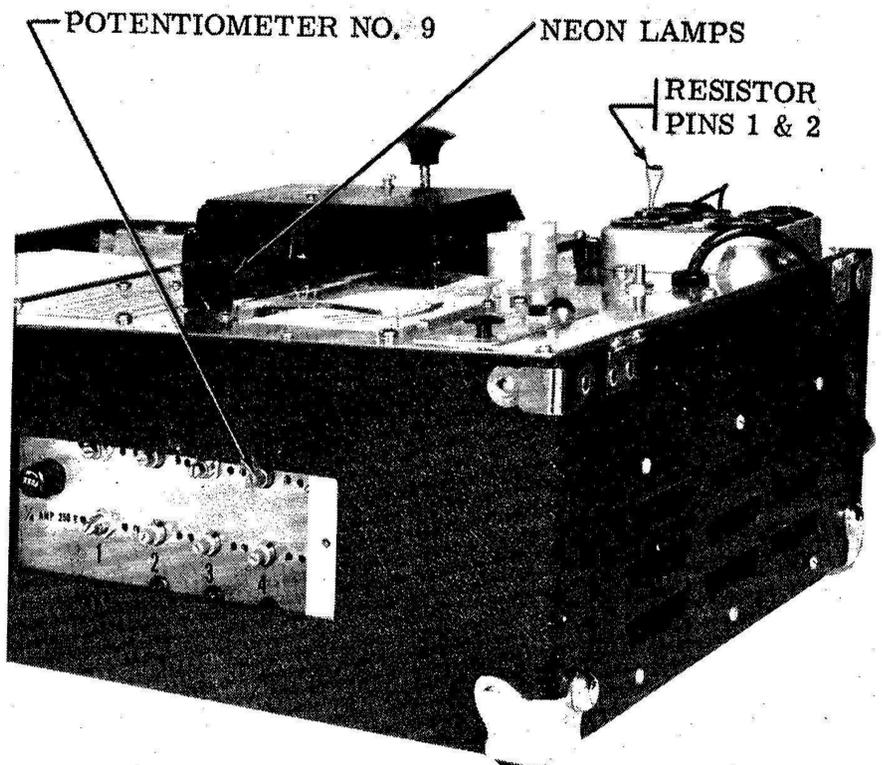

Figure 5. Test Setup for Adjusting Short Test Sensitivity
* Located as shown in figure 5.